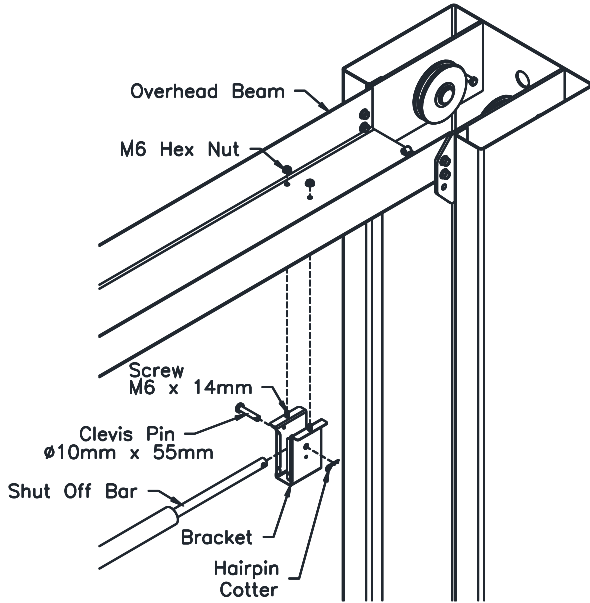

Fig. 4b – Overhead Bracket Idler Side
- 16) Install the Idler Bracket to the Overhead Beam using the rear set of holes on the Idler Side of the lift. **Fig. 4b**. **Note the orientation of the**